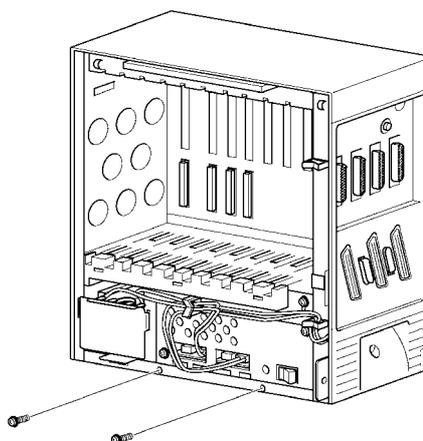

Figure 4-18 Securing the KSU to the Floor Mounting Bracket
3. Secure the KSU to the floor mounting bracket using the two screws as indicated in *Figure 4-18 Securing the KSU to the Floor Mounting Bracket*.